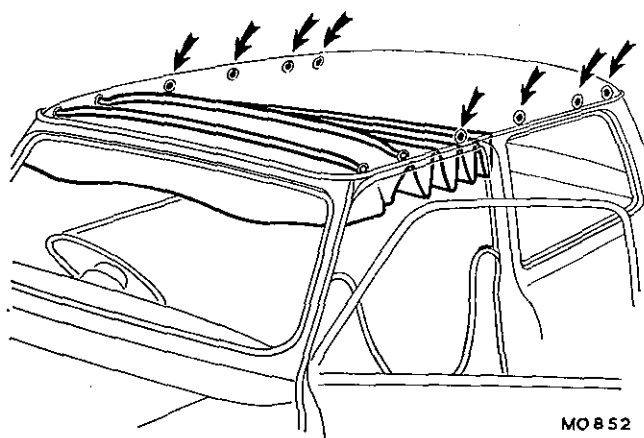

Fig. Rb.9
- (11) Lay out the lining and apply a 4 in. (100 mm.) wide strip of Dunlop adhesive (S914 or S1022) around the edge of the lining.
- (12) Apply the above adhesive to the roof cant rails and to all exterior aperture flanges to which the lining is to be secured.
- (13) Start at the front and engage the liner support rails into the plastic locators in the roof cant rails (see Fig. Rb.9).
- (14) Stretch out the lining front to rear and keeping the lining taut, commence sticking the lining to the front and rear screen aperture flanges and then simultaneously to both roof cant rails.
- (15) Continue cutting and sticking the lining to the door and quarter light exterior flanges and trim off excess material as required.
- (16) Use adhesive when refitting the door seals. The remainder is a reversal of the removing procedure.
- (17) Water test the front screen, back-light, and the rear quarter-light ventilators.